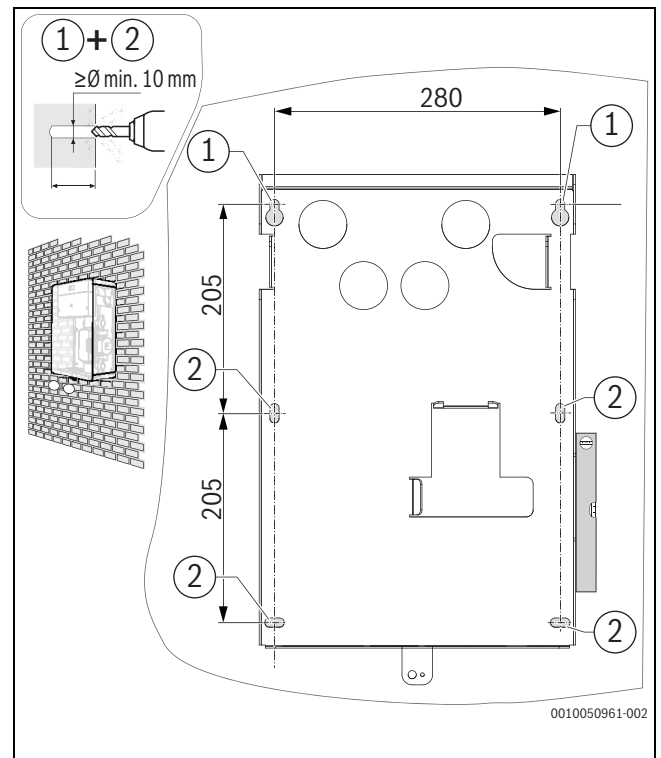

Fig. 16 Drilling plan for option 2
- ▶ Drill holes in the wall according to the drilling plan (→Fig. 16).